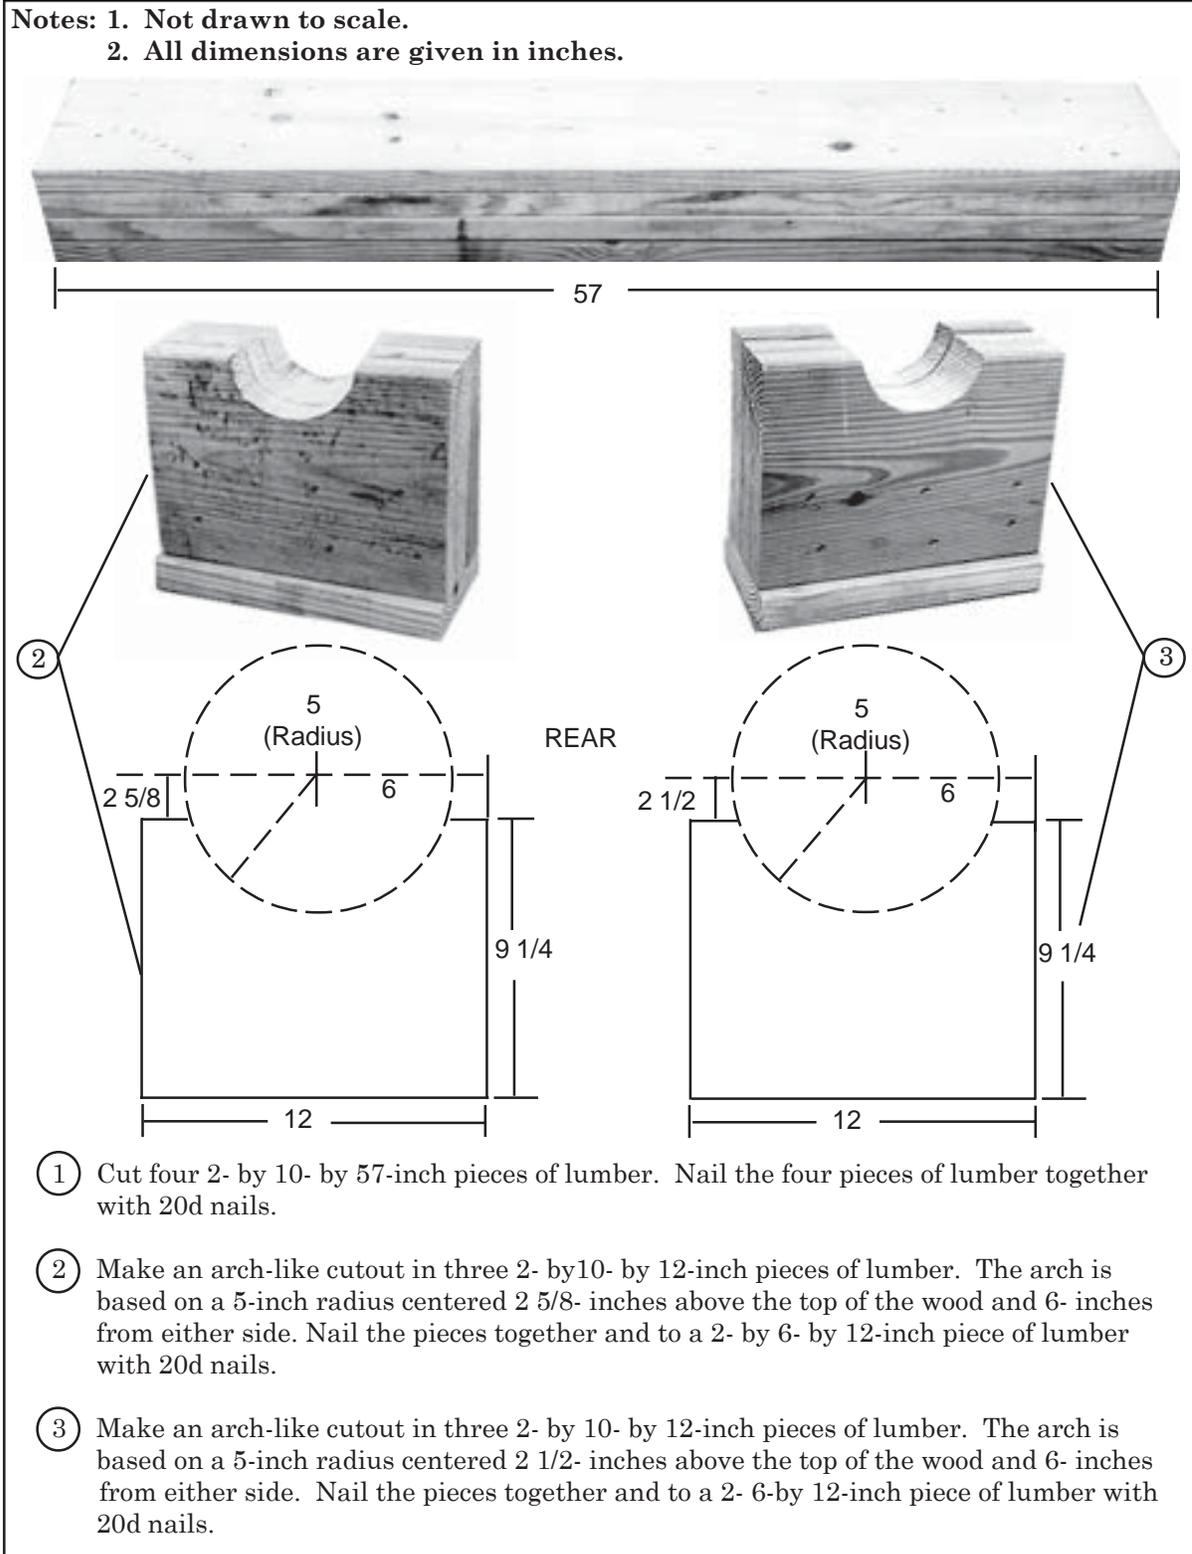

Figure 1-7. Front and Rear Gun Tube Support Blocks Constructed
- b. Use 2- by 6-inch and 2- by 10-inch pieces of lumber to build the wooden support blocks for the gun tube according to Figure 1-7.